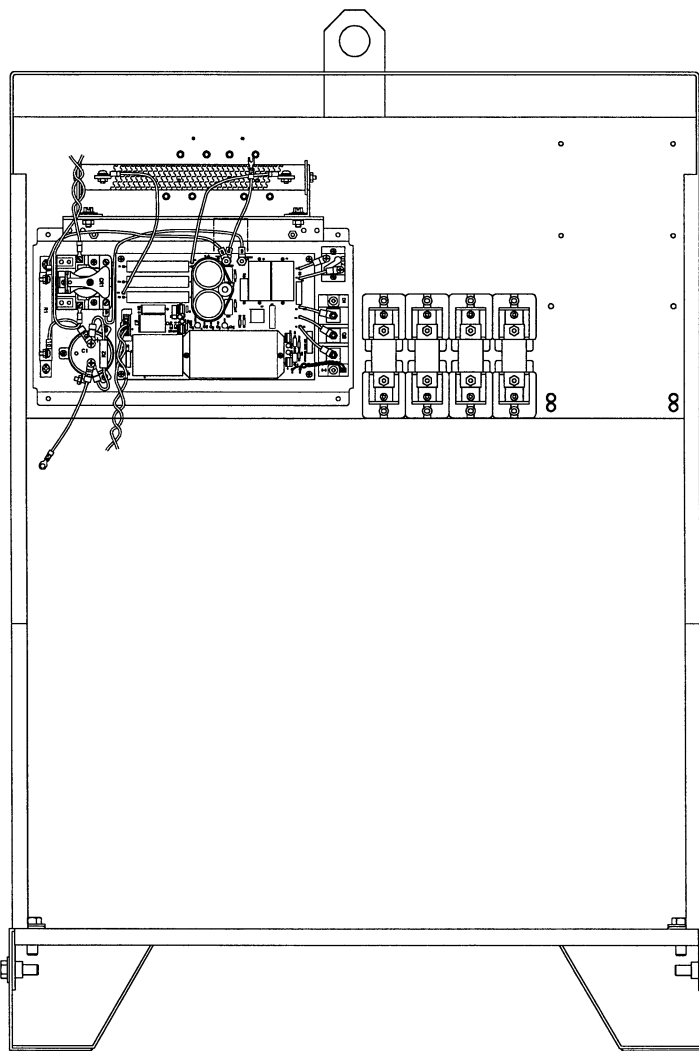

Figure 5 HT4001 with Start Circuit II Subassembly Mounted
7. Mount the HT4001 Start Circuit Assembly 129029 and secure with four 8-32 screws. See Fig. 5.